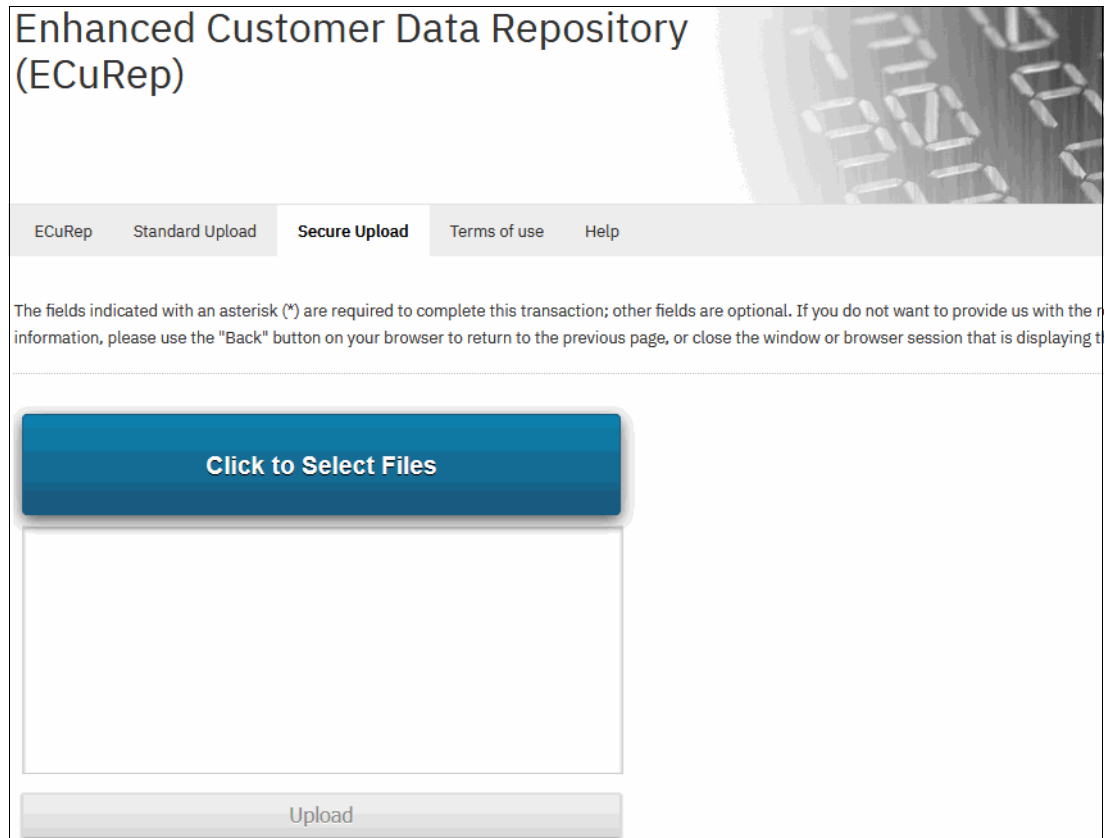

Figure 8-18 ECuRep file selection dialog
4. The file selection panel opens (Figure 8-18). Select files and click **Upload**.